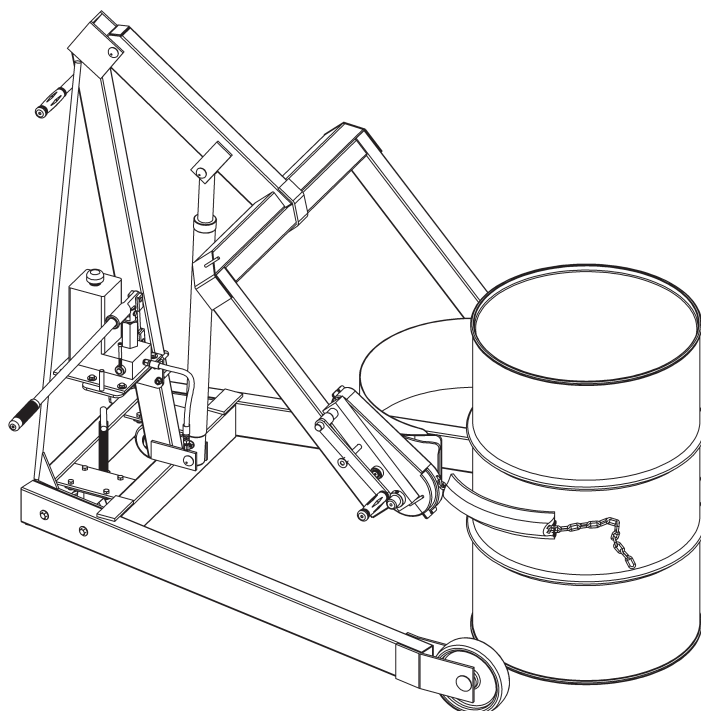

Figure 3.1
The screw-down floor lock is located on the base of the tower (figure 3.1). Turning the floor lock clockwise until it locks in the down position activates the floor lock. When the floor lock is activated it prevents unwanted free wheeling of the unit. Floor conditions determine the effectiveness of the floor lock. The operator should verify its holding action before depending on it to hold.
2. Using the "LIFT" control as described in "Machine Description - Controls", position the drum holder assembly with the back band at the middle of the drum. (Figure 3.1). With the ratchet plate swung open and the cinch chain hanging from the chain hook, push the unit until the back band rests firmly against the drum. Some adjustment to the tilt angle of the saddle may be necessary to ensure band fits flush on the drum.